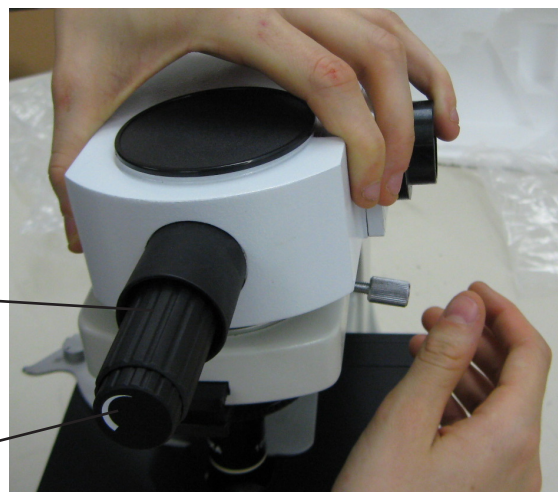

Fig. 1
2.2 Place the splitter attachment of the multidiscussion system and tighten the lock screw on the right side of the microscope (Fig. 1).